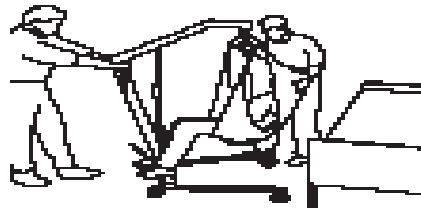

FIGURE 4.3 Lifting/Moving the Patient
NOTE: For this procedure, refer to FIGURE 4.3.
2. When the patient is lifted from the bed (with the patient's head supported by the sling and/or an assistant), he/she will be raised to a sitting position (Detail "A", FIGURE 4.3).
3. When the patient is clear of the bed surface, swing their feet off the bed (Detail "B", FIGURE 4.3).
5. When moving the patient lift away from the bed, turn the patient so that he/she faces assistant operating the patient lift (Detail "C", FIGURE 4.3).